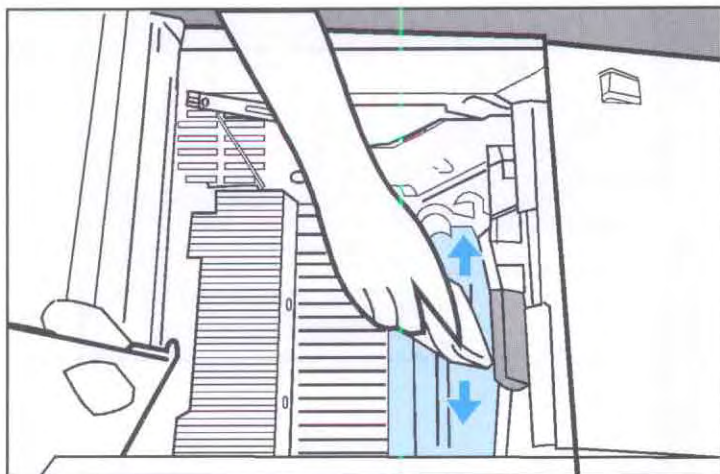

Figure 4-9. Cleaning the Registration Area
3. With a damp (*use water only*) lint-free cloth, wipe residue off the Upper Registration Guide (see Figure 4-9).